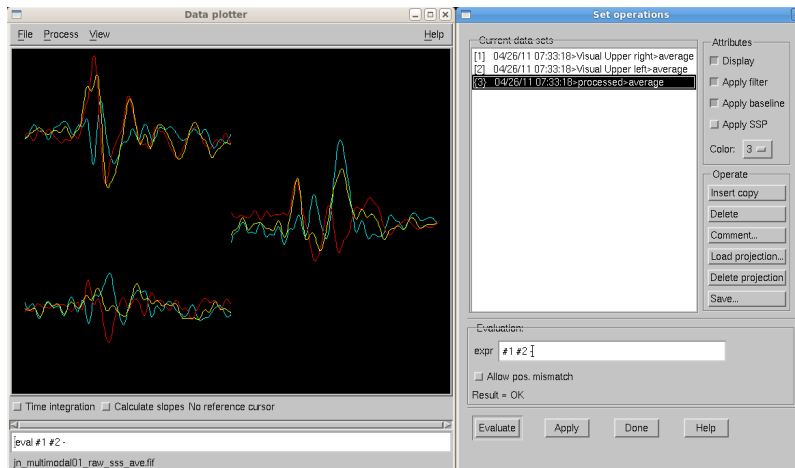

Figure 24: Xplotter Set operations.
- To see a list of loaded data sets and controls for changing their display, filters, baseline and SSP status (Figure 24).
- For computing the difference between the sets, use the expression “**#1 #2 -**” and select **Evaluate**. A third trace (blue) showing the difference of the two original ones should now appear on the main Plotter window (Figure 24).